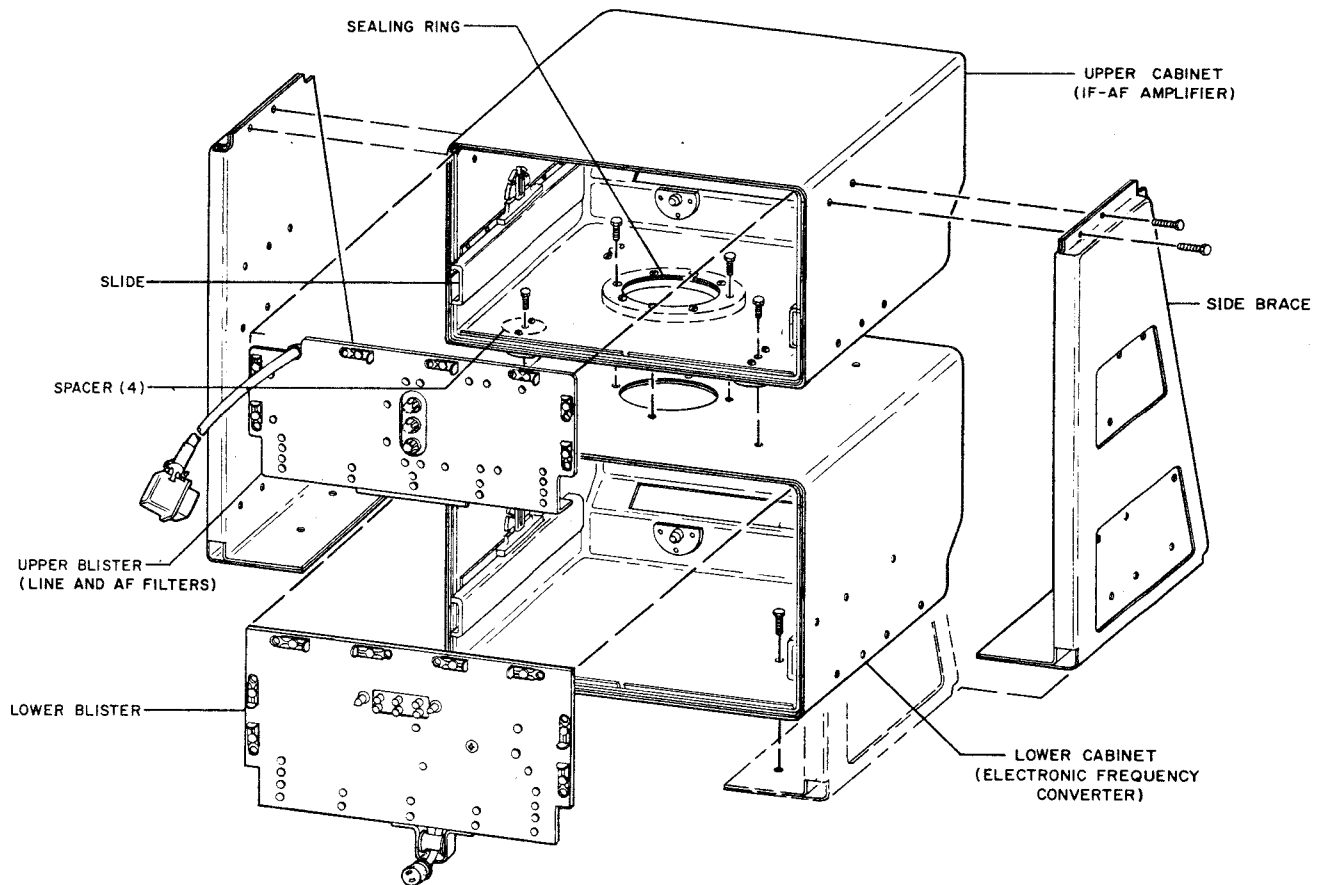

Figure 2-5. Cabinet Mounting Details
(2) REMOVING SIDE BRACES (FOR AN/WRR-2 ONLY).—As shown in figure 2-5 each of the two side braces is affixed to the joined cabinets by eleven 1/4-inch hex-head screws. A lock washer and a plain washer accompany each screw. Detach these screws to free the brace from the cabinet side, saving the hardware for reassembly.
(3) SEPARATING THE CABINETS.